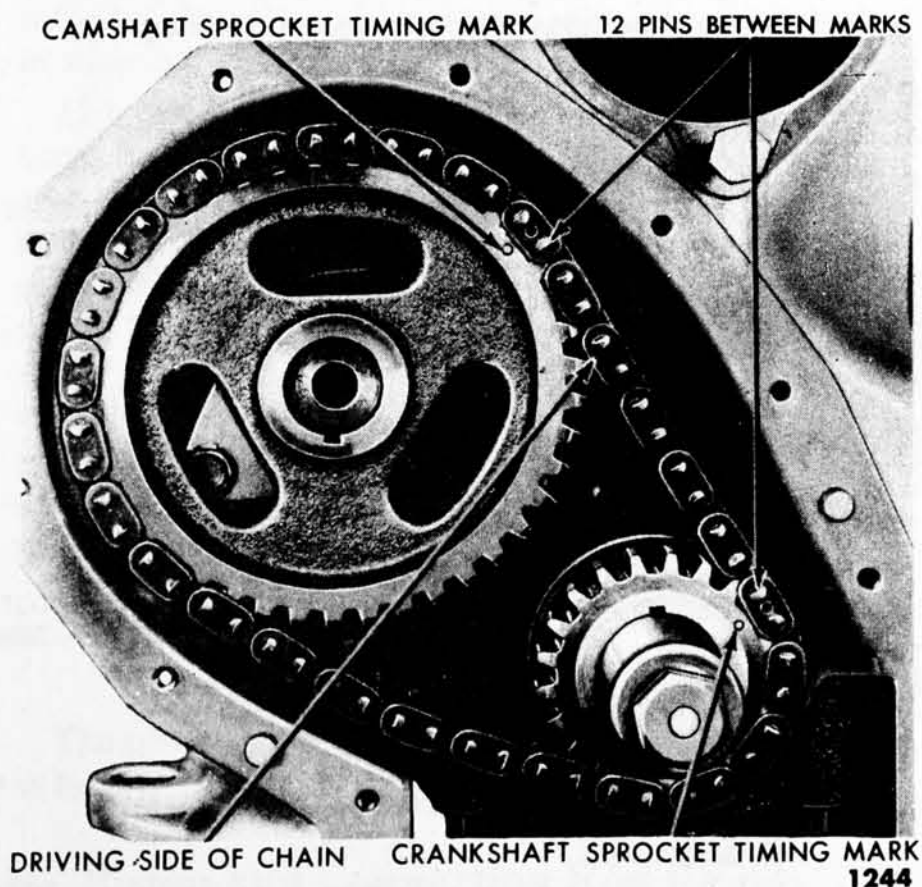

Fig. 18—Aligning Timing Marks
(1) **REMOVAL.** Before removing the camshaft sprocket, it is advisable to align the timing marks as shown in fig. 18.
(2) **INSTALLATION.** Place the timing chain over the crankshaft sprocket, and insert the camshaft sprocket in the timing chain so the timing marks of both sprockets are properly positioned (fig. 18). Align the key in the camshaft with the camshaft sprocket keyway, and slide the assembly into position. Recheck the timing. Install the washer and retaining bolt. Tighten the bolt to 45-50 foot-